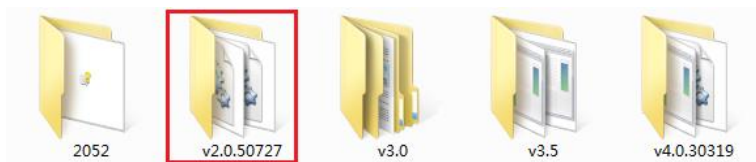

Figure 2 Framework 2.0
To run the software, Microsoft.NET Framework v2.0 or above must be installed on the computer. Please confirm whether the computer system path "C:\Windows\Microsoft.NET\Framework(64)" contains Framework 2.0 or above, as shown in Figure 2.
- 4) **Transfer progress:** When you click the "Download" button in the figure 2, the download progress is displayed here.